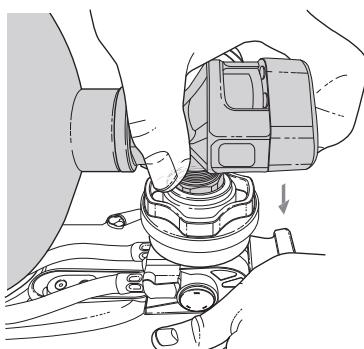

Fig. 34 Aligning the cylinder valve
- Ensure that male adapter on the cylinder valve port (1) and the bore of the pressure reducer (2) are clean and undamaged.
- Push the cylinder valve port into the bore of the hand wheel until a click is heard (Fig. 34).